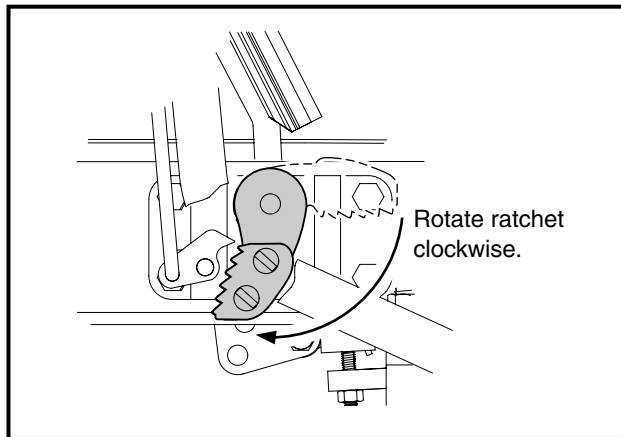

Figure 5-7 Ratchet Installation
8. Depress the brake pedal slightly, and with the park brake ratchet oriented so that the tip of the ratchet is pointed toward the rear of vehicle, slide the ratchet onto the pivot rod (do not slide the ratchet onto the pivot rod splines). Release the brake pedal and allow the ratchet to rotate until its tip is pointed downward **(Figure 5-7, Page 5-8)**. The ratchet should now rotate freely on the rod.
8. Depress the brake pedal slightly, and with the park brake ratchet oriented so that the tip of the ratchet is pointed toward the rear of the vehicle, slide the ratchet onto the pivot rod (do not slide the ratchet onto the pivot rod splines). Release the brake pedal and allow the ratchet to rotate until its tip is pointed downward (**Figure 5-7, Page 5-8**). The ratchet should now rotate freely on the rod.